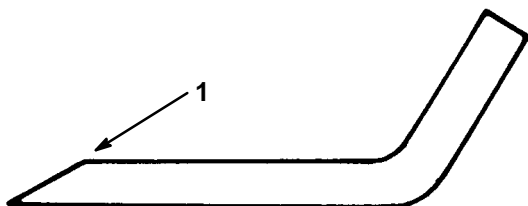

Figure 25
1. Use a file to sharpen the cutting edge at both ends of the blade (Fig. 25). Maintain the original angle. The blade retains its balance if the same amount of material is removed from both cutting edges.